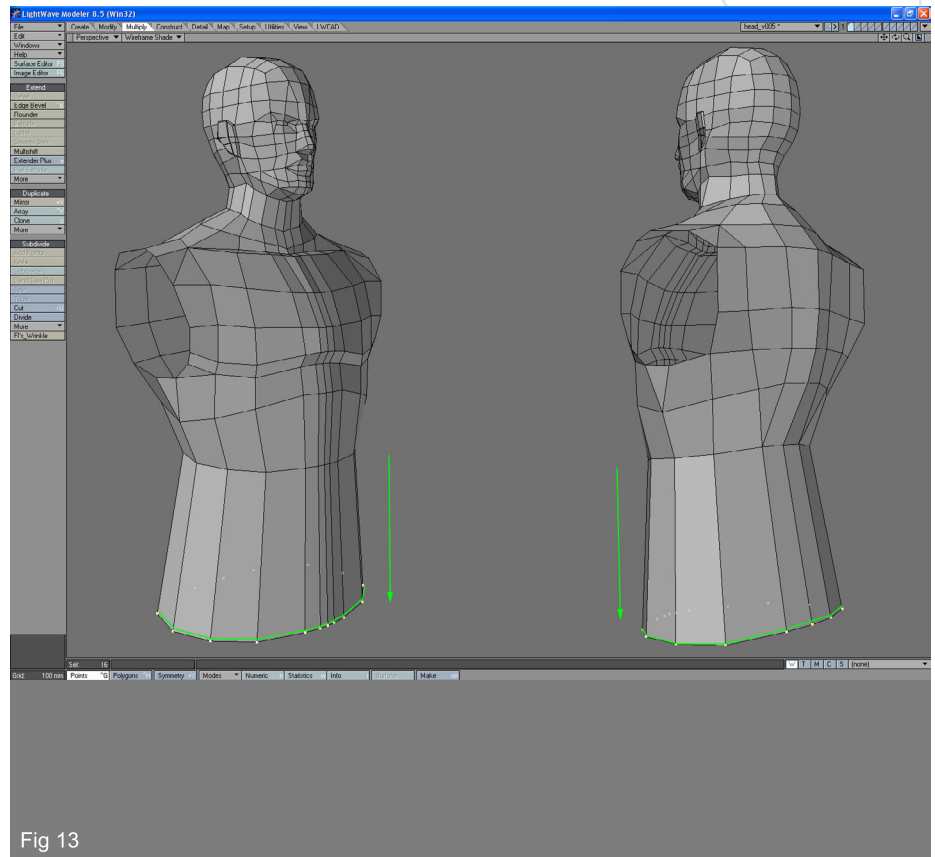

Fig 13
13. Once again, select the bottom row of points, extend them, move them down and stretch them a bit along X axis (Fig13).